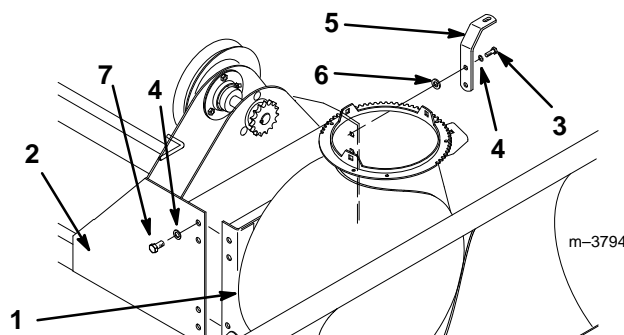

Figure 1
1. Slide the frame assembly over the auger housing (Fig. 1).
2. Secure the crank support bracket to the upper left holes in the auger housing and frame assembly, using (2) 3/8" x 1" bolts, (2) 3/8" lock washers, and (2) 3/8" flat washers (Fig.1).
3. Finish securing the union of the auger housing and the frame assembly, using (6) 3/8" x 3/4" bolts and (6) 3/8" lock washers (Fig. 1).